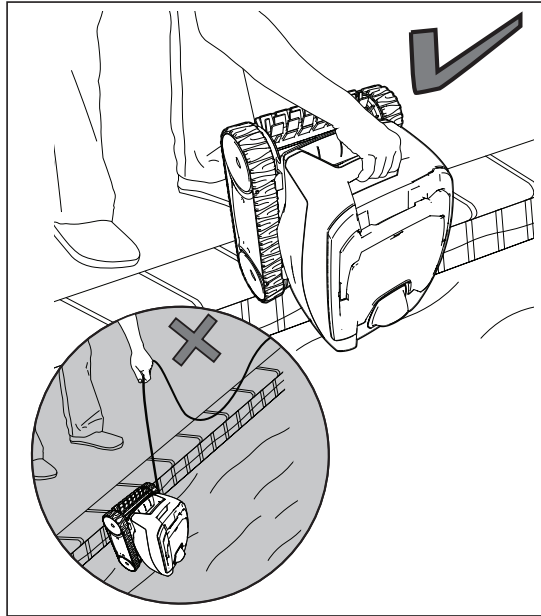

Figure 8. Lift Cleaner From Pool with Handle
2. Use the handle to lift the cleaner from the water (Figure 8).